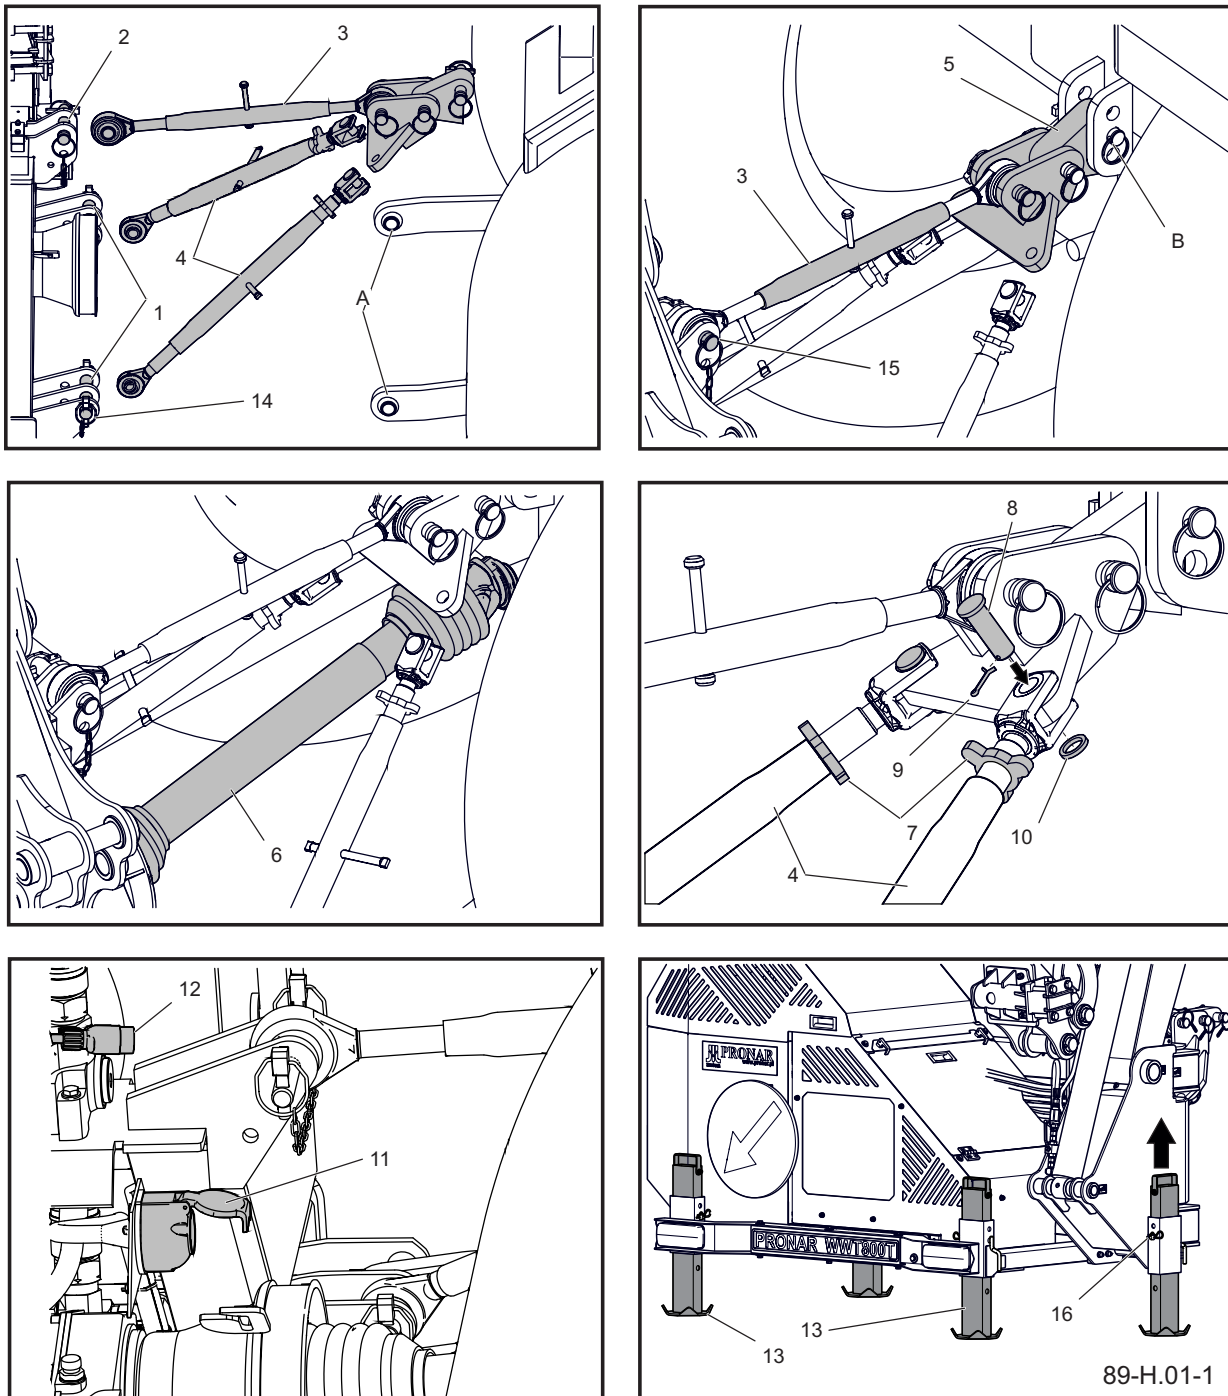

Figure 4.1 Hitching the multifunction arm to the carrier vehicle (tractor).
In order to hitch the multifunction arm to the carrier vehicle's (tractor) rear three-point linkage, adhere to the following guidelines (FIGURE 4.1):
- connect lower links (A) of the carrier vehicle's (tractor's) three-point linkage. Connect lower links (4) of the three-point linkage lock system with pins (1) of the multifunction arm linkage. Secure pins (1) with cotter pins (14),
- connect central connector (3) of the three-point linkage lock with the upper fixing point (2) of the multifunction arm linkage, secure with pin (15),
- adjust the length of central connector (3) in order to connect the upper securing point of the three-point linkage (B) with bracket (5) of the three-point linkage lock system and secure with a cotter pin (16),
- connect the carrier vehicle's (tractor's) PTO to the multifunction arm's multiplier gear box by means of the drive shaft (6),
- when links (4) of the three-point linkage lock system are unlocked (FIGURE 4.1), raise the multifunction arm by means of lower links (2)
4.1) to the bracket of the three-point linkage lock using pins (8). Secure the pins with cotter pins (9).
- lock the set length of links (4) of the three-point linkage lock by means of lock nuts (7).
- connect 7-pole electric socket (11) of the power supply system of rear lamp assembly and 3-pole electric socket (12) of the power supply system of the multifunction arm oil cooler fan and WWT804T control panel with corresponding electric sockets on the carrier vehicle (tractor) (FIGURE 4.1).